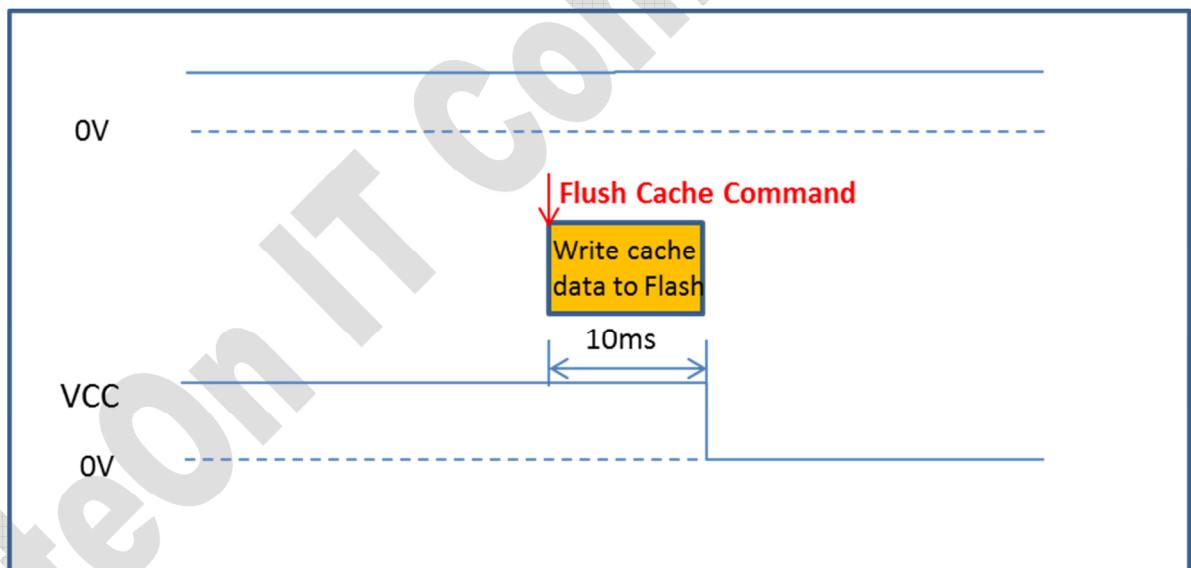

Figure 4 Power off sequence
**Note:** Power off without Flush Cache command or Standby Immediate Command in advance may cause cache buffer data which received from host and waiting for programming lose. Please implement the power off sequence as the process in the Figure 4 to prevent the data loss